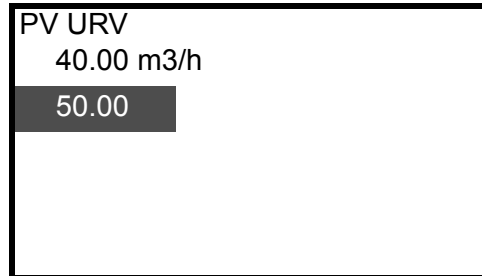

Figure 12 Range input
2. Use the numeric keys to enter a new range value in the value input display. Up to six digits including a decimal point can be entered. (Figure 12)
The low limit of the range is always 0 and cannot be changed. Do not select “PVLRV” from the basic setup menu. If selected, the display will show an input value for the low limit of the range as shown in Figure 12. Any input other than 0 cannot be set to converter. Doing so will result in an error.